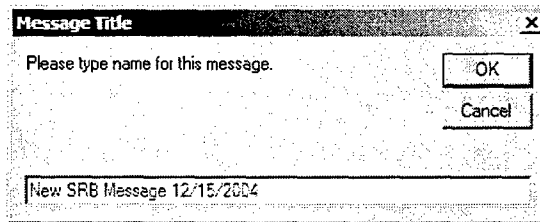

Figure 32. Message Title for Official Plan
3. Type in a Message Title. This title establishes the naming convention for the Access tables created for the new SRB message (see Figure 32).